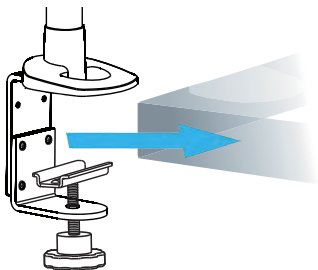

Figure 2
4. Slide the **Desk Clamp** onto the **Desk**. (Figure 2)